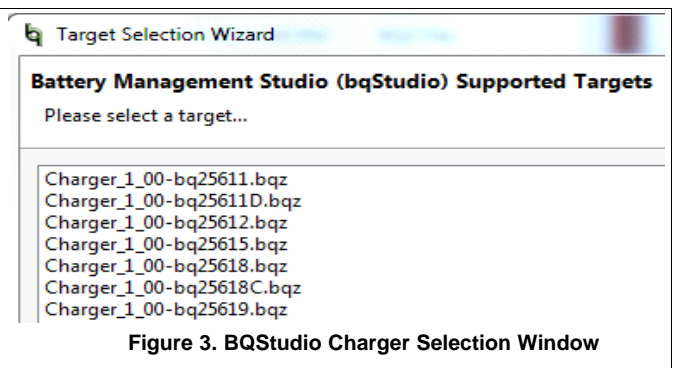

Figure 3. BQStudio Charger Selection Window
2. Select the appropriate configuration file based on the device from the window shown in Figure 3.